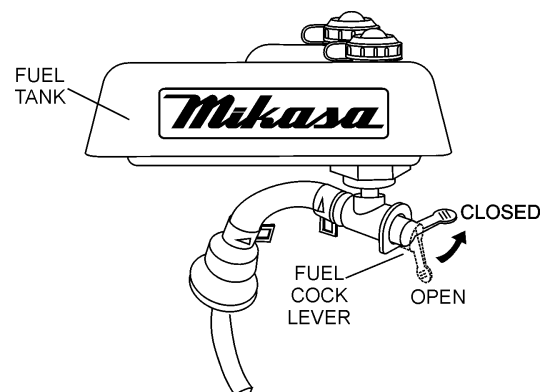

Figure 15. Fuel Shut-Off Valve (Closed Position)
3. Close the **fuel shut-off valve** (Figure 15) by moving the fuel cock lever to the **CLOSED** position.